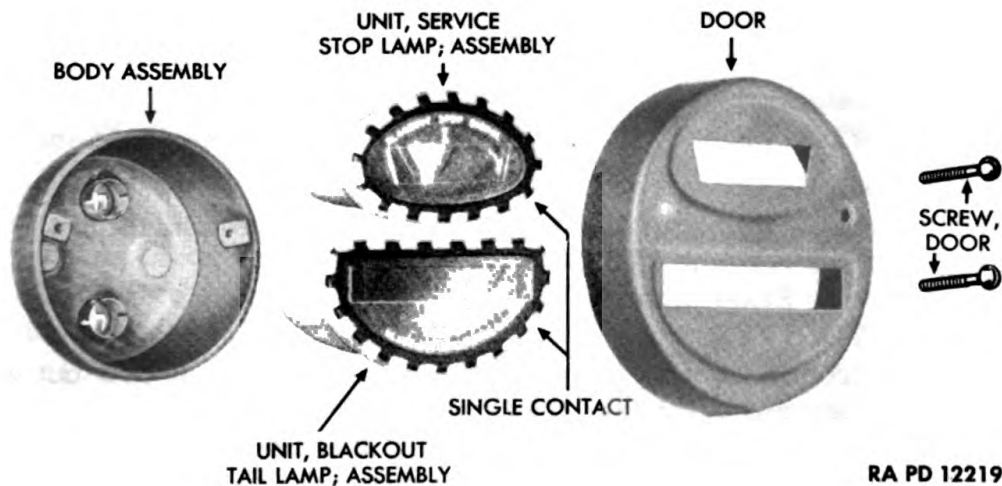

Figure 221—Blackout Tail and Stop Lamp Assembly
(1) Remove 2 screws which secure door to body assembly and lift door from body assembly (fig. 221).
(2) Pull blackout stop lamp unit assembly and blackout tail lamp unit assembly out of body assembly (fig. 221).
(1) Place blackout stop lamp unit assembly and blackout tail lamp unit assembly in position in body assembly (fig. 221).
(2) Place door in position on the body assembly and secure the door to the body assembly with the 2 door screws (fig. 221).